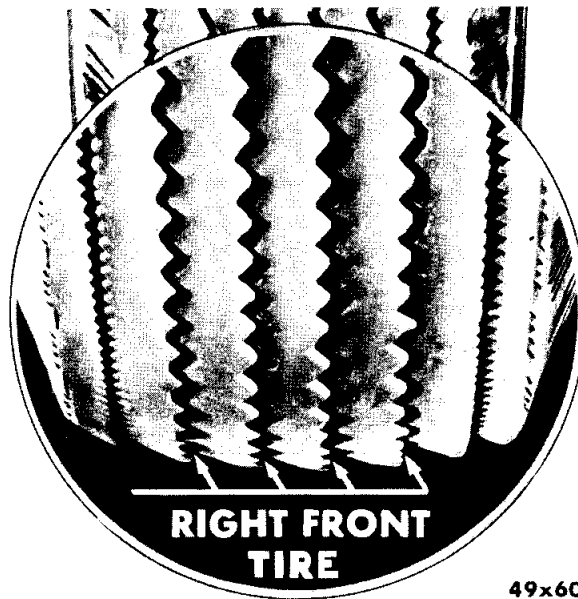
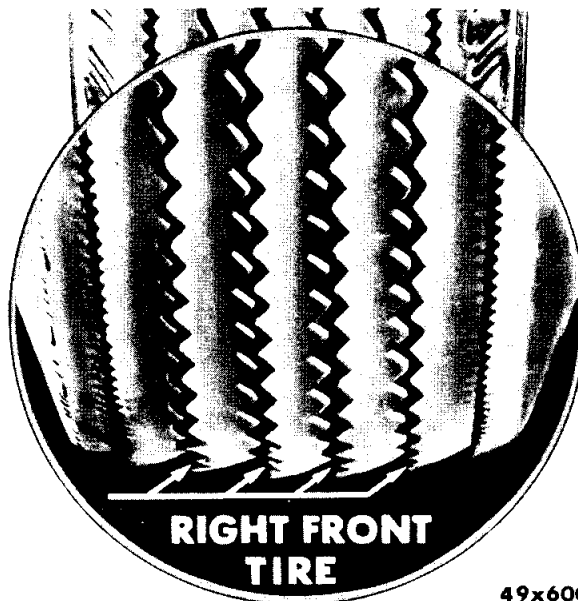

Fig. 29—Toe-In Wear
Fig. 30—Toe-Out Wear
- c. The amount of front wheel toe-in or toe-out affects the rate of tire wear more than any other single cause. See Figure 29 for toe-in wear and Figure 30 for toe-out wear. Refer to Front Wheel Alignment in this section.